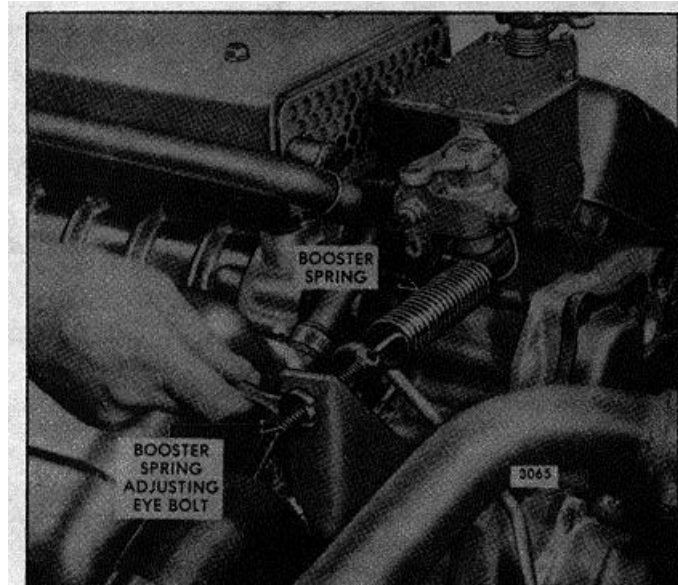

Fig. 9 - Adjusting Booster Spring
1. Refer to Fig. 9 and disconnect the booster spring and the stop lever retracting spring.
2. Refer to Fig. 9 and loosen the booster spring